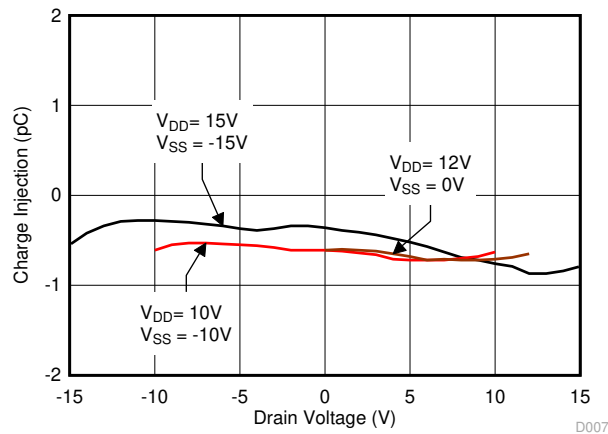

Figure 6-15. Charge Injection vs Drain Voltage
The TMUX6136 utilizes special charge-injection cancellation circuitry that reduces the drain (D)-to-source (Sx) charge injection to as low as -0.4pC at $V_S = 0\text{V}$, as shown in Figure 6-15.